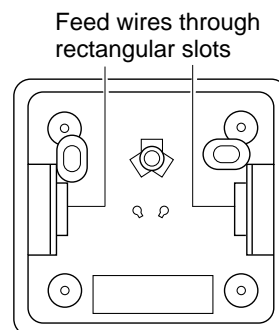

Figure 42 - Back View of Thermostat Base
6. Feed the electrical wires through the rectangular slots (from the back) on each side of the base (see Figure 42).